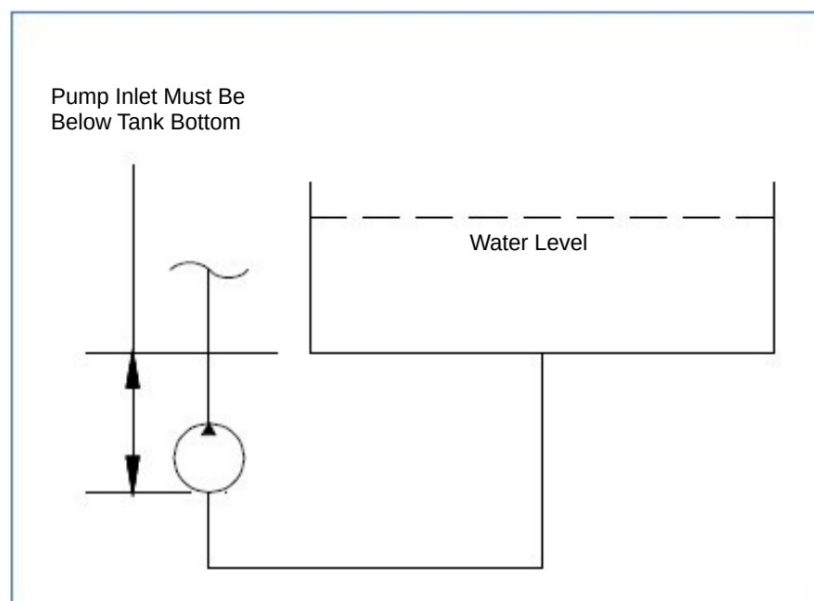

Figure 4.4 – Gravity Feeding Source
- Gravity feed water source: - CAVIDYNE™, LLC feed pump system not required (see Figure 4.4). Requires connection hose with a minimum diameter of 1-¼" between the water tank and the Power Unit and must be above the main pressure pump inlet. The gravity feed system must be capable of consistently providing at least 30 GPM (114 LPM).
- Locate the water supply tank so that the bottom of the tank is higher than the water inlet on the control panel (Figures 4.4 and 4.6).
Ensure that the water source can reliably deliver the maximum pump flow of 20 GPM (76 LPM). A minimum flow of 30 GPM (114 LPM) is recommended to ensure that the pump is not starved of water. If connecting to a tank, locate the bottom of the tank above the water inlet connection on the power unit to ensure a flooded suction line. (See Figure 4.4)